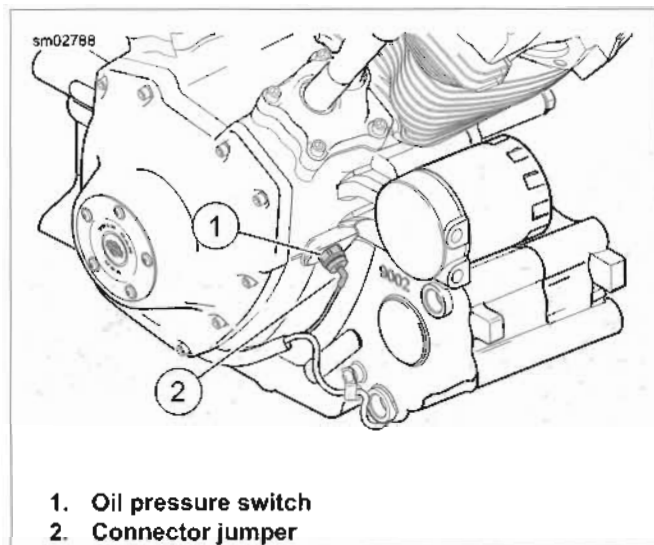

Figure 7-104. Oil Pressure Switch
See Figure 7-104. The oil pressure switch monitors oil pressure in the crankcase. If the oil pressure drops below 3 psi (20.6 kPa), the oil pressure switch is tripped and illuminates the low oil pressure indicator light. The oil pressure switch is located on the right side of the crankcase.
1. See Figure 7-104. Remove connector (2) from oil pressure switch (1).
2. See Figure 7-104. Install oil pressure switch (1) to crankcase. Tighten to 96-144 in-lbs (10.8-16.3 Nm).
3. Attach connector (2) to oil pressure switch.